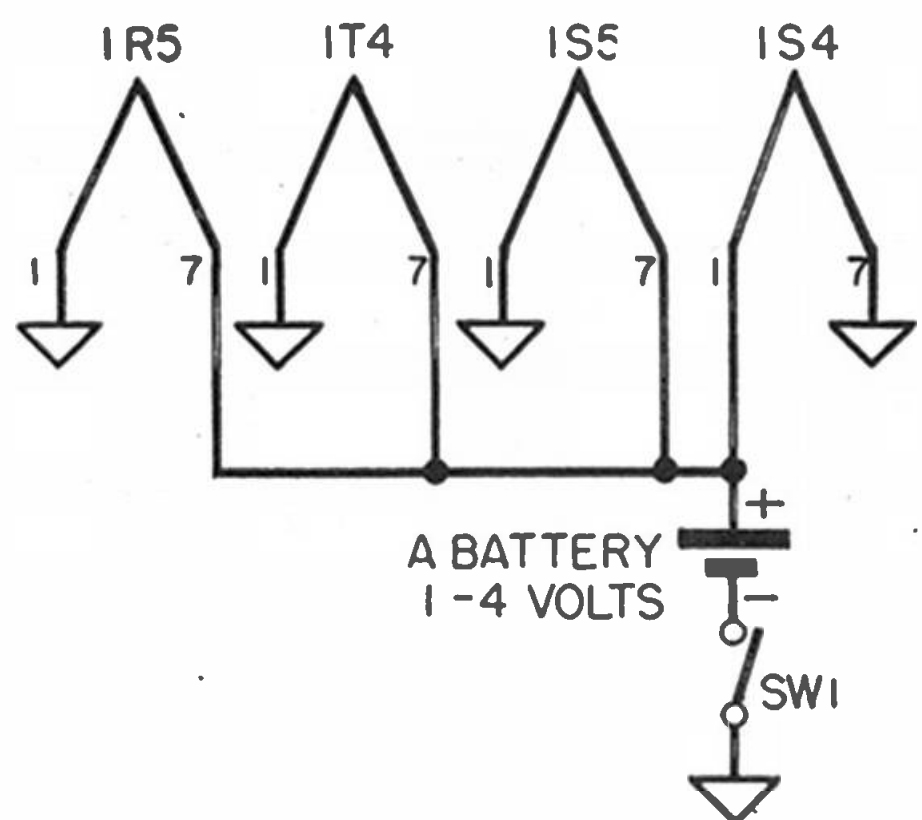

Fig. 8-4. Filament circuit.
a) Heater Circuit. See Figure 8-4.